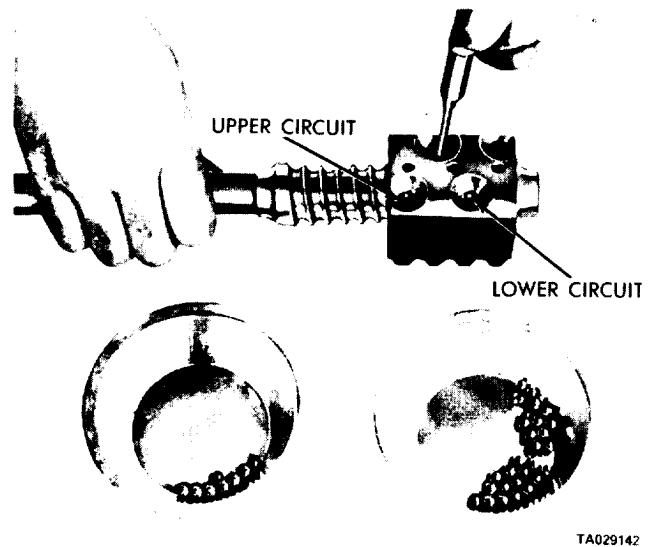

Figure 21-4. Filling Ball Circuit (Closed Type).
(4) Hold the ball nut with the helical grooved bore in a horizontal position with the ball guide holes facing upward. Position the shallow side of the rack teeth toward the left as viewed from the steering wheel end. Insert the wormshaft, aligning the wormshaft grooves with the grooves in the nut.
(5) Count 27 balls (the number of balls for one circuit) into a clean container. Place 20 of these balls into one of the guide holes. It may be necessary to push them in with the aid of a pin punch (figure 21-4).